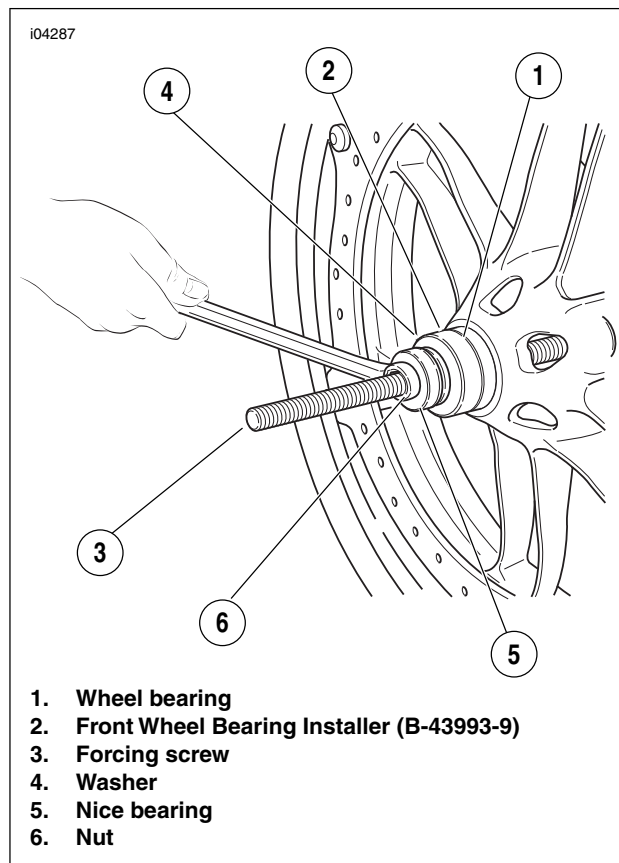

Figure 2-16. Install the Bearing
11. See Figure 2-16. Insert a **new** wheel bearing (1) squarely into the hub, with the lettered side pointing out (away from the wheel).
12. Slide the FRONT BEARING INSTALLER (Part No. B-43993-9) (2) onto the forcing screw (3), with the smaller diameter toward the bearing bore.
13. Install a washer (4), Nice bearing (5) and nut (6) onto the forcing screw (3).